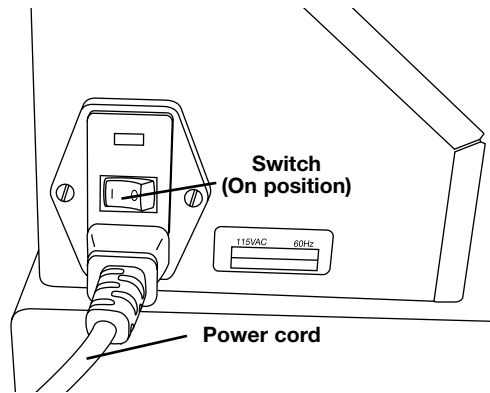

Fig. 2
3. Insert the **power cord** into the side of the system. See Fig. 2.